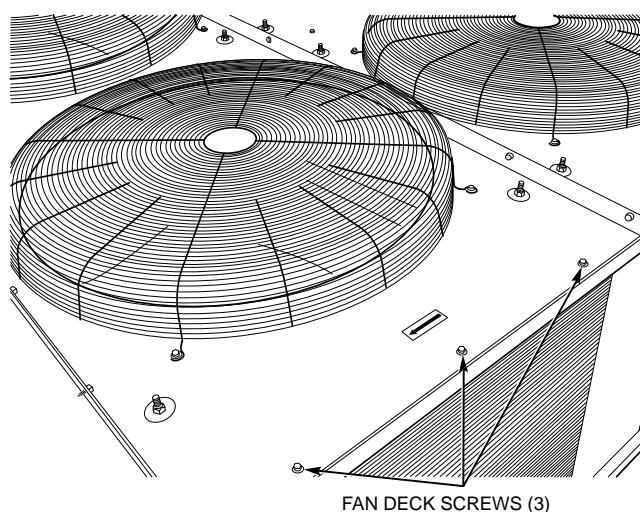

Fig. 2 — Fan Deck Screw Locations (Each Coil Section)
2. To install each media/grille assembly over a vertical coil section, loosen the 3 screws at the front edge of the fan deck over each vertical coil section. See Fig. 2.